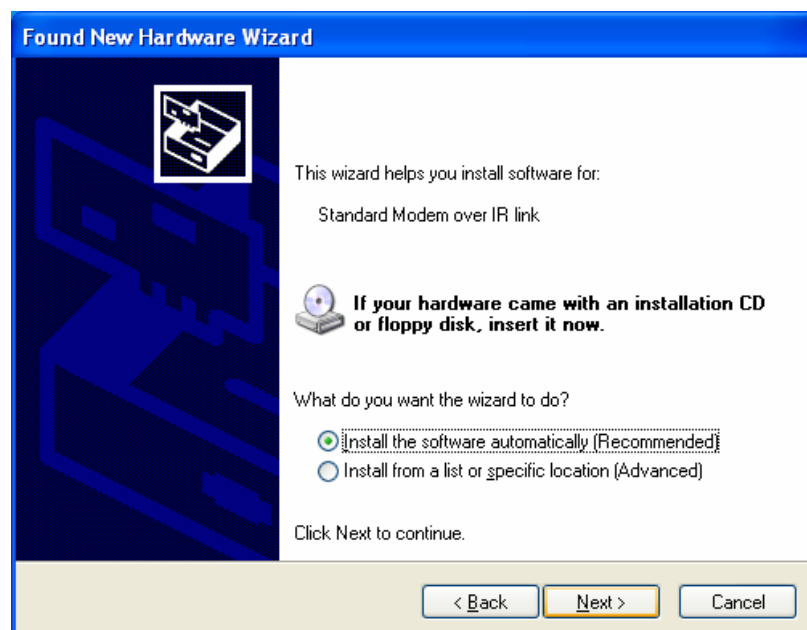

Figure 12 : First screen of 'Found New Hardware Wizard'
5. In the second screen (Figure 12), select '**Install the software automatically (Recommended)**' and click **Next** to continue.